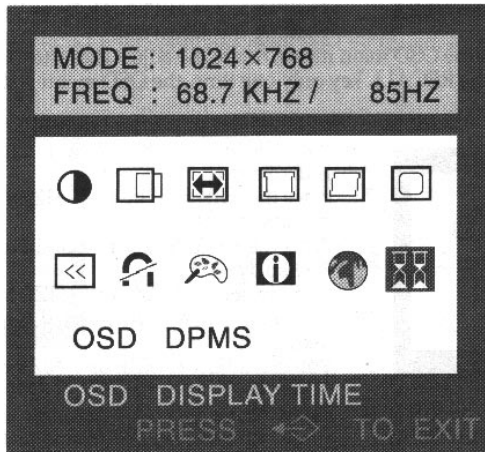

Figure 5: OSD main menu
Press the 'ONE TOUCH OSD' button (C) to obtain the OSD main menu. A menu like the one shown in Figure 5 will pop up.